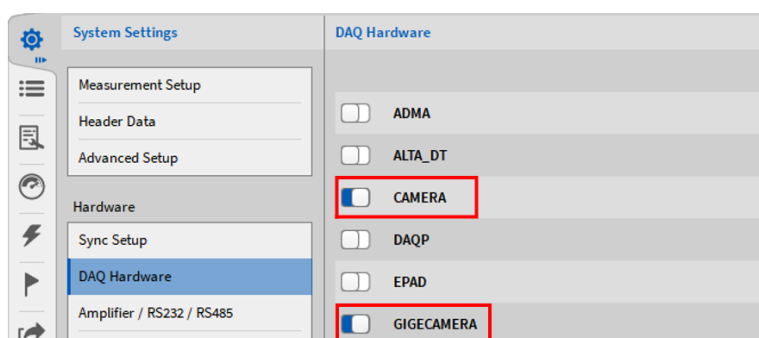

Fig. 8.129: Enabling the Camera Series and the GigE Camera series in the DAQ Hardware setup
**Note:** If the camera channel does not appear in the Channel List although a camera is connected to the measurement system, make sure that *CAMERA Series* for webcams or the *GIGECAMERA Series* for GigE cameras are enabled in the *DAQ Hardware* setup (see Fig. 8.129) in the *System Settings*.